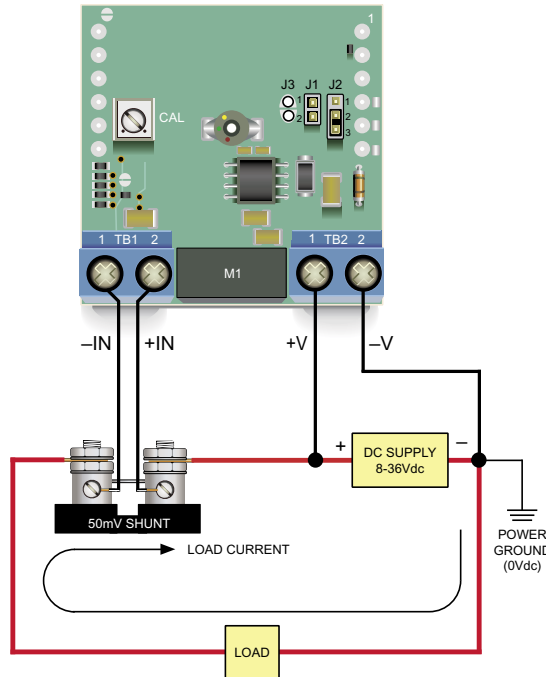
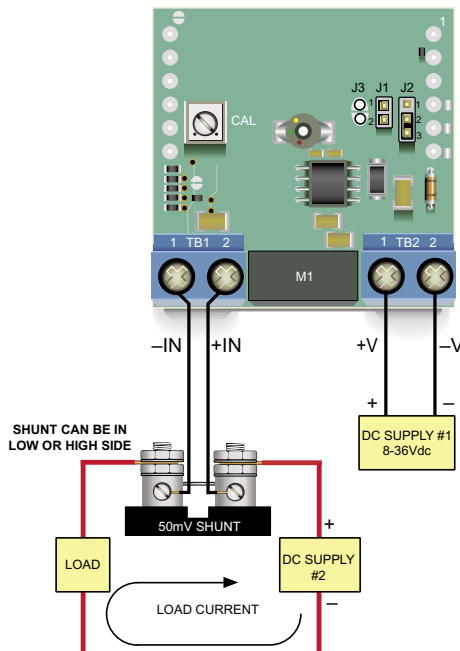

Figure 4. High-Side Shunt Connections for "-DC4" 8-40Vdc Isolated-Power Models
Figure 5. Using "-DC4" Isolated-Power Models to Maintain Isolation Between Two Power Supplies
**High-Side Shunts:** '-DC4' isolated-power ammeters must be used in all applications that employ a single power supply to power both the load and the ammeter **and** the shunt is located in the high side (positive terminal) of the supply. Figures 4 and 5 depict typical high-side shunt connections. As shown in Figure 5, isolated-power models can also be used in applications where one supply powers the ammeter